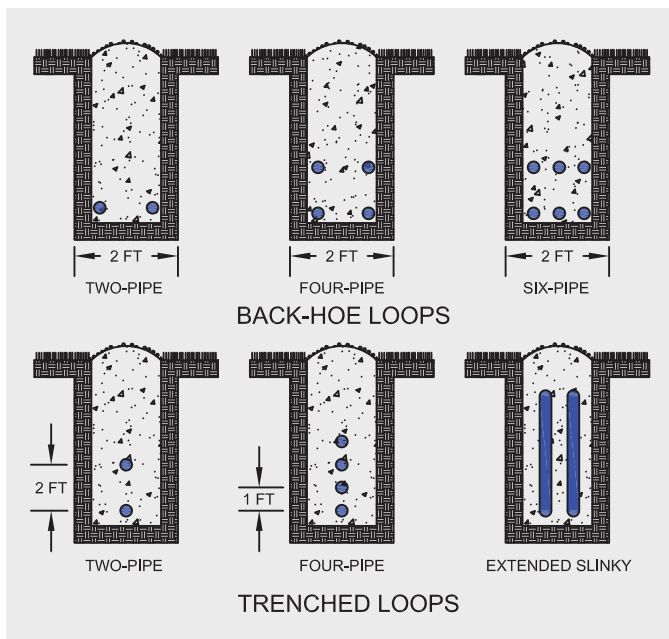

Fig. 82
- ▶ Backhoe or trench excavation typical (Fig. 82)